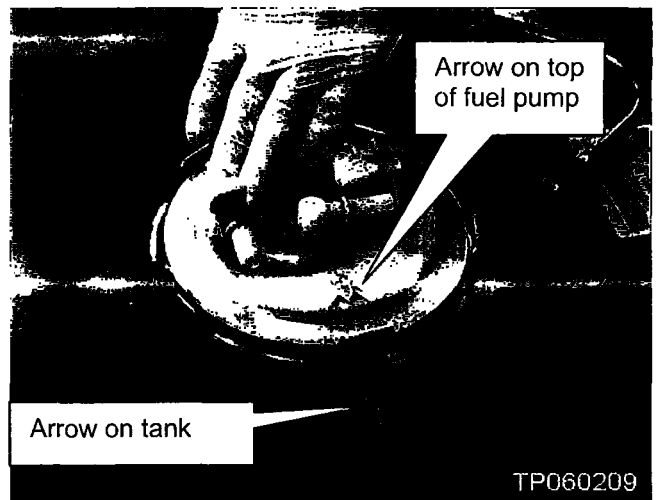

Figure 46
48. Make sure the arrow on the tank and the arrow on the top of the fuel pump are aligned as shown in Figure 46.